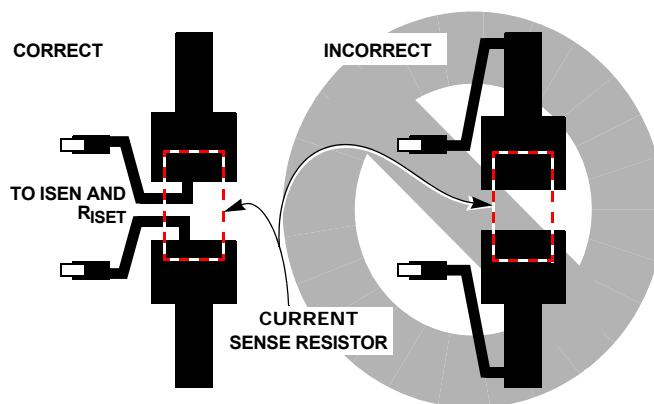

FIGURE 1. SENSE RESISTOR PCB LAYOUT
**Physical layout of RSENSE resistor** is critical to avoid the possibility of false overcurrent occurrences. Ideally, trace routing between the RSENSE resistors and the IC is as direct and as short as possible with zero current in the sense lines (see Figure 1).